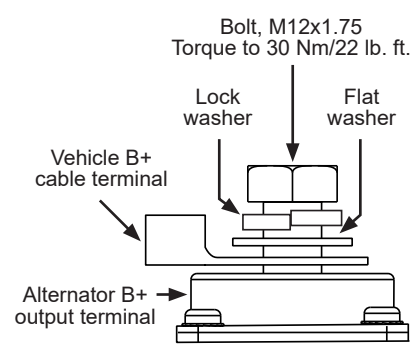

Figure 2: B+ Terminal Hardware Stacking Order
5. Connect vehicle B+ cable to alternator B+ terminal following stacking sequence shown in Figure 2. Torque to 30 Nm/22 lb. ft.